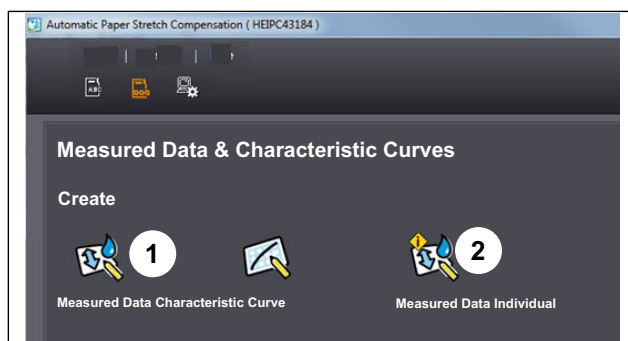

Fig. 14 Panel "Measurement data and characteristic curves"
1. Open the panel **Measurement data and characteristic curves** (Fig. 14).
2. Select **Measured Data Characteristic Curve** (Fig. 14/1) if you plan to use the measurement data to create a general correction based on a characteristic curve.
Select **Measured Data Individual** (Fig. 14/2) if you want to use the data to correct an individual job.